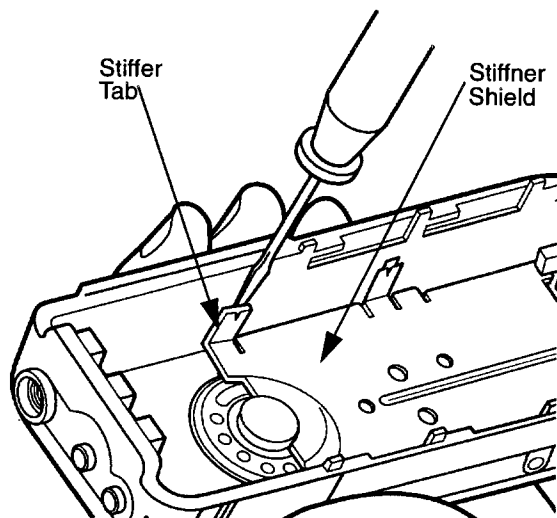

Figure 1-9. Remove Stiffner Shield
1. Insert a screwdriver between one of the tabs on stiffner shield and slots on side of housing (Figure 1-9).